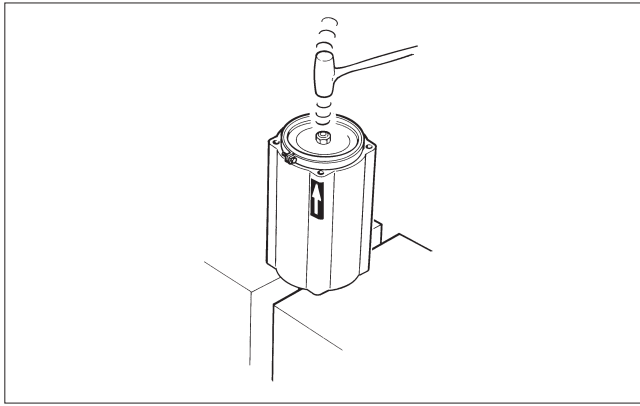

Fig. 13 Placing the piston in the cylinder
- Hammer or press the piston into the cylinder through the tie ring. Note the indicator arrow direction. See Fig. 13.
- Install new O-rings (19). Replace cylinder end and install cylinder with piston. Note the location of the air supply port: it must correspond to the exhaust air port in the cylinder base.
- Tighten screws (31) in actuator sizes B1J20 and smaller, or tighten nuts (45) in sizes B1J25 and larger; the torques for both are given in Table 2.